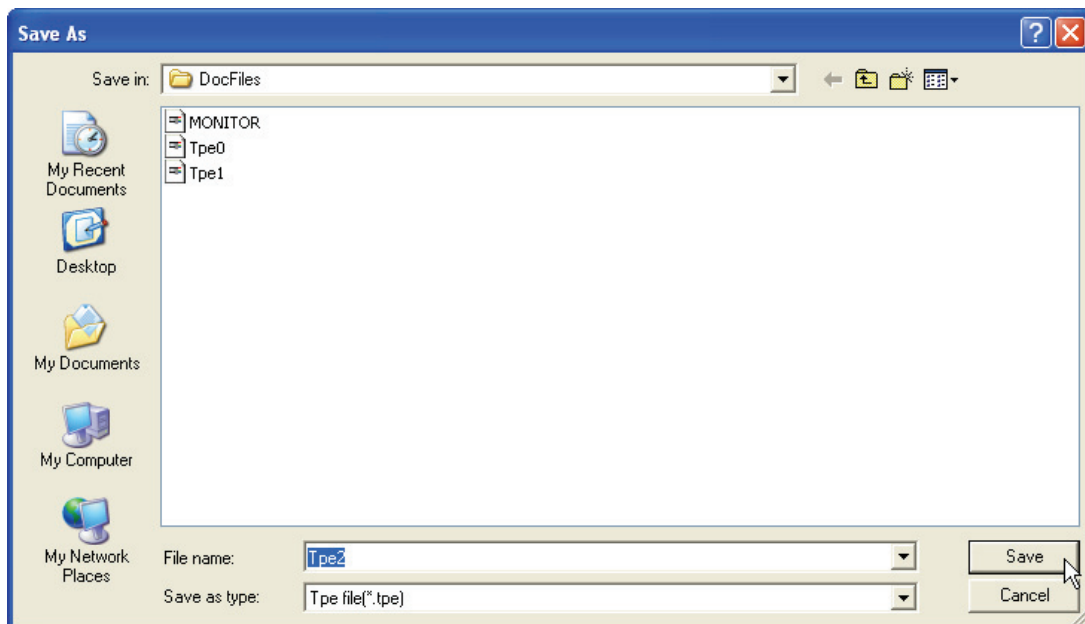

Figure 1-44
Step 2. Enter a new file name and press **Save** button (Figure 1-44).